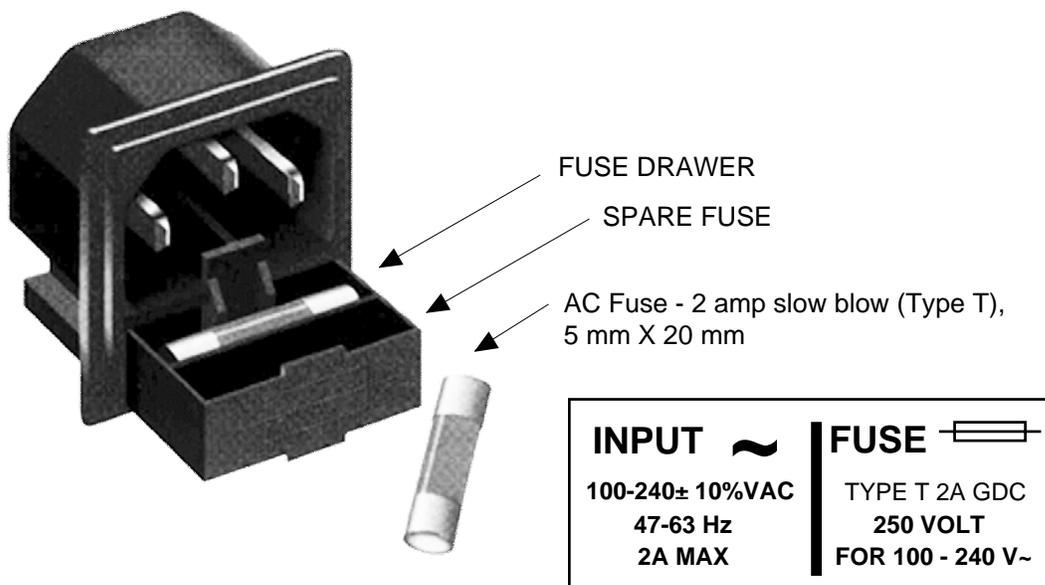

**FIGURE 2.2 2115-178-500 Front Panel Controls and Indicators**
4. Be sure DS1 (green, DC Power) is on and DS2 (red, Alarm) is off (Figure 2.2).
6. If EXT is selected or AUTO is selected and there is a 10MHz, 3 dBm signal at J2, check that DS3 (yellow, Ext 10MHZ) is on (Figure 2.2).